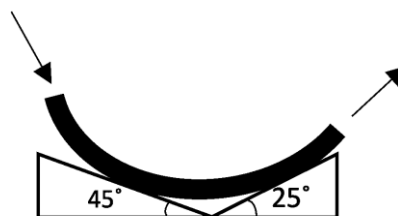

Figure 8
5. (a). The principle of conservation of momentum states that the momentum of fluid in an isolated system is constant. Consider a jet of water travelling in a smooth rectangular vane at a velocity of 22.5 m/s. The rectangular section is 80 mm wide and 22.5 mm thick. The vane is attached to a rigid foundation at angle shown in **Figure 8**. Determine the vertical and horizontal components of the force exerted on the vane.